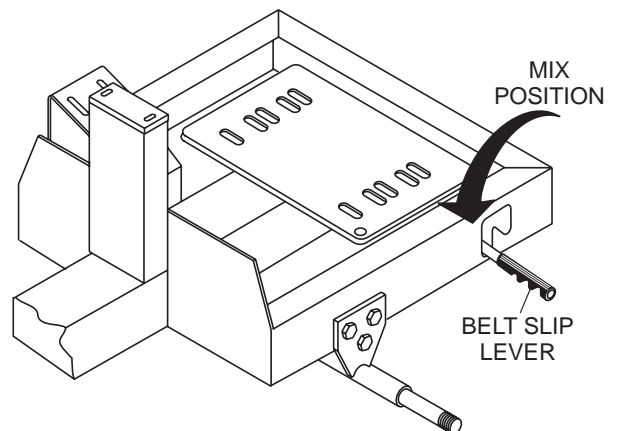

Figure 23. Belt Slip Lever (Mix Position)
- Place the belt slip lever (Figure 23) in the mix position. This will tilt the engine placing tension on the V-belts enabling the shaft to rotate.